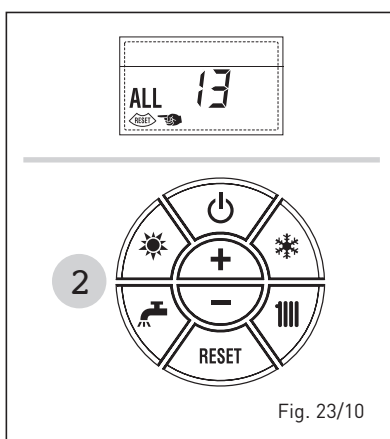

Fig. 23/10
– **ANOMALIA SONDA FUMOS “ALL 14” (fig. 23/11)**